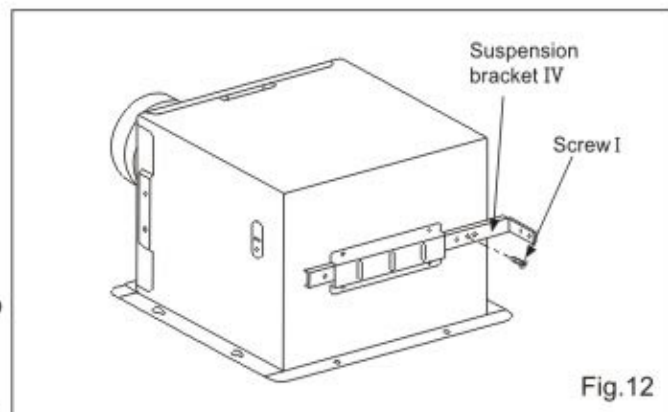

Fig.12
2. Connect the suspension bracket IV to fan body. (Fig.12) (Select the hole by checking I-joist size fix the screw to the frame hole.)